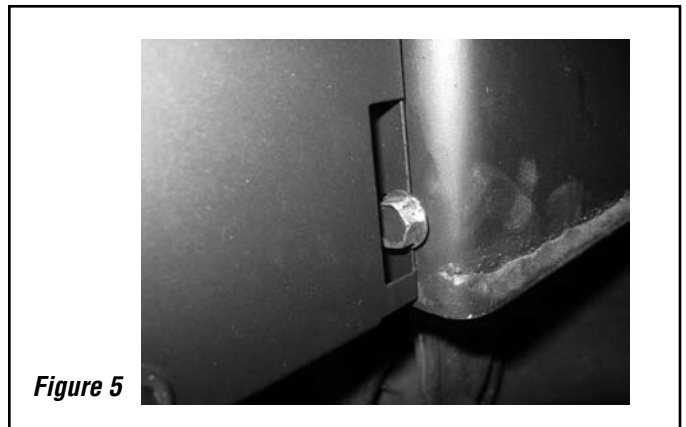

Figure 5
- Step 5.** Insert blower under the ash lip making sure that the slots in the blower housing line up to the left side of bolts. Gently slide blower housing from left to right over the loosened bolts until you feel it hit a solid stop and the housing is centered under the ash lip of the insert. See **Figure 5**.